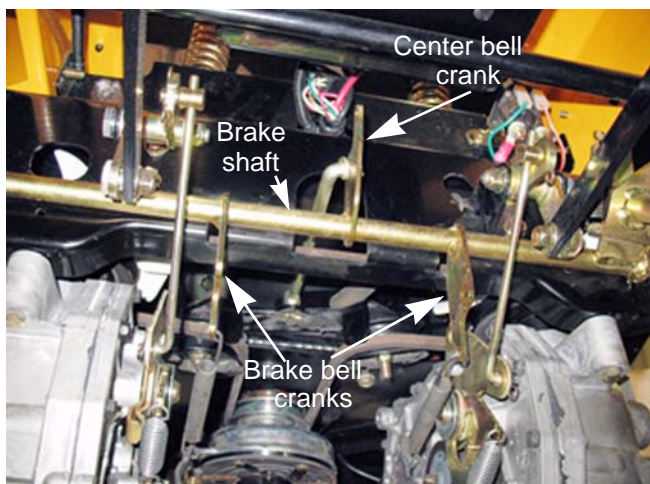

Figure 3.2
- The center bell crank on the brake cross shaft assembly has a link that is connected to the drive belt idler pulley bracket. When the parking brakes are applied, the idler pulleys are pulled away from the drive belt. This de-tensions the belt, disengaging drive to the transmissions. See Figure 3.2. The adjustment procedure for the brake link is covered in the drive belt adjustment section of Chapter 5: Drive.